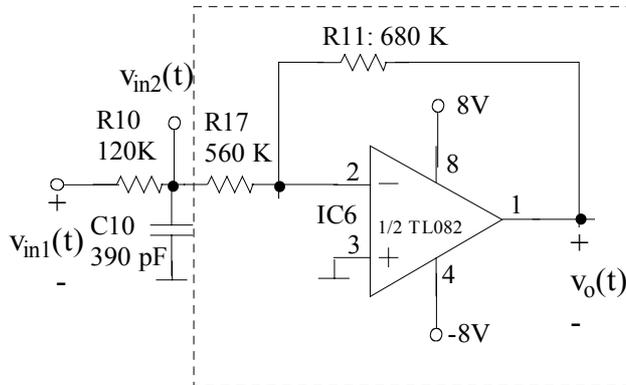

Figure 3.37 Loudspeaker amplifier-first stage
- The loudspeaker amplifier is given in Appendix A. We analyzed the LPF formed by R10 and C10 in this chapter already. This piece of circuit is part of the first stage in loudspeaker amplifier. This first amplifier stage is shown in Figure 3.37.